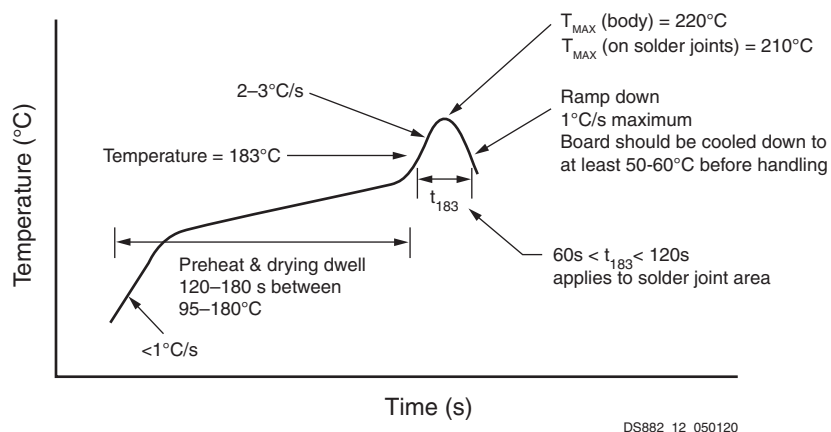

Figure 21: CN Package Soldering Guidelines
Figure 21 shows typical conditions for solder reflow processing of Sn/Pb soldering using IR/convection for ceramic column grid array packages (CN). Both IR and convection furnaces are used for assembly. The moisture sensitivity of the surface mount device (SMD) must be verified prior to surface-mount flow.
Notes for Figure 21: